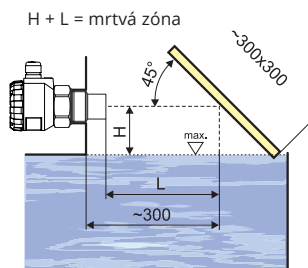

Fig. 15: Reflection board
- To lower the minimum distance to the measured medium, **a reflection board** made from solid, even and smooth material can be installed to the level meter. Then the tank can be filled nearly up to the maximum height. The solution is suitable for open tanks and reservoirs (Fig. 15).